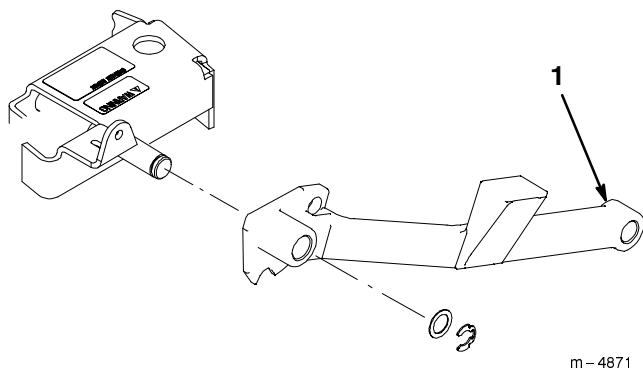

Figure 67
- Grease the fittings on push arms (Fig. 67).